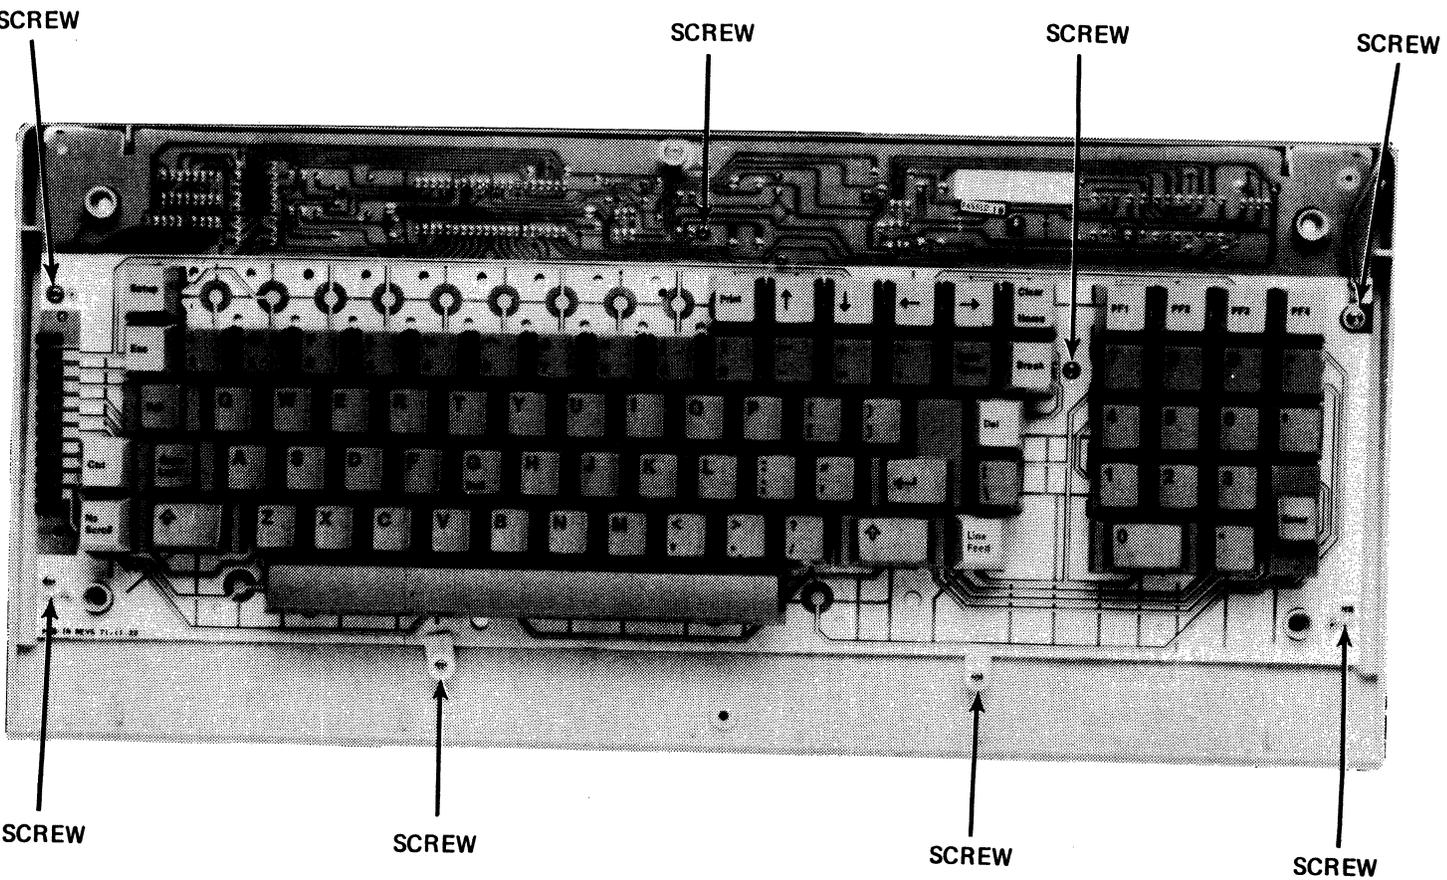

Figure 2-1. Keyboard Top Cover Removed
2. Remove the six screws that secure the keyboard PCB to the bottom cover. However, the two screws with tabs, located at bottom center of keyboard, do not have to be removed, just loosen each tab/screw and move holddown tab to one side. See Figure 2-1.
1. Insert the coiled keyboard cable through its access hole in the bottom cover and secure it to its retainers. Be careful not to damage the cable by overstressing its tensile strength. Connect the keyboard cable connector to the keyboard PCB. See Figure 2-1.